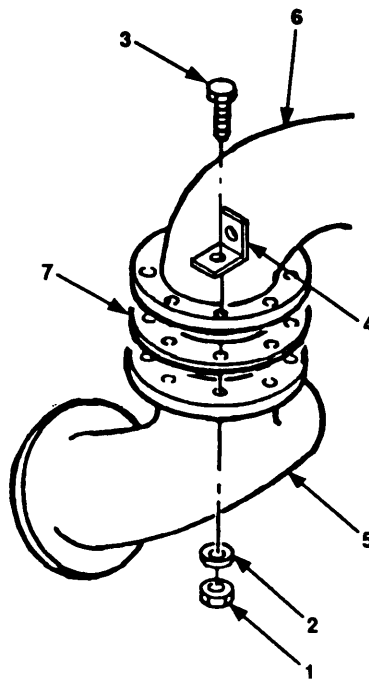

Figure 4-63. Discharge Manifold Maintenance.
- a. Remove eight nuts (figure 4-63, 1), lockwashers (2) bolts (3) and one bracket (4).
- b. Remove discharge manifold (5) from discharge connection (6).
- c. Remove and discard gasket (7).
- a. Install new gasket (7).
- b. Position discharge manifold (5) against discharge connection (6) and align mounting holes.
- C. Install bracket (4), eight bolts (3), new lockwashers (2) and nuts (1) .